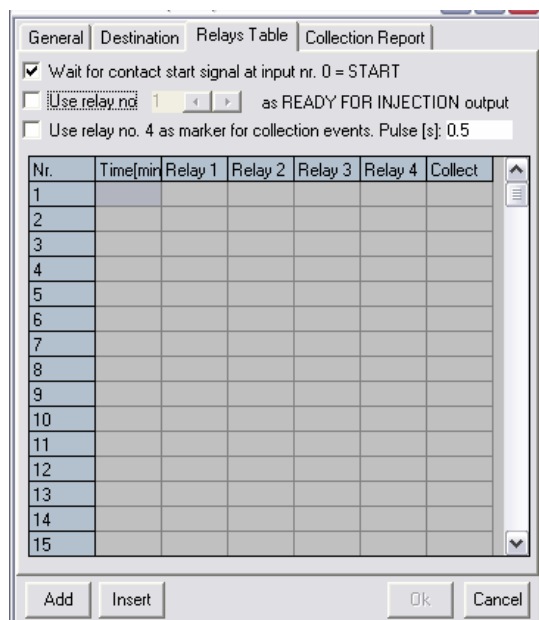

FIGURE B-6 The Relay Table Tab
- e) For the remote start of μ Carrier, select the *Wait for contact start ...* from the **Relay Table** tab (FIGURE B-6). The μ Carrier software will use the start delay from the **General** tab (FIGURE B-4).